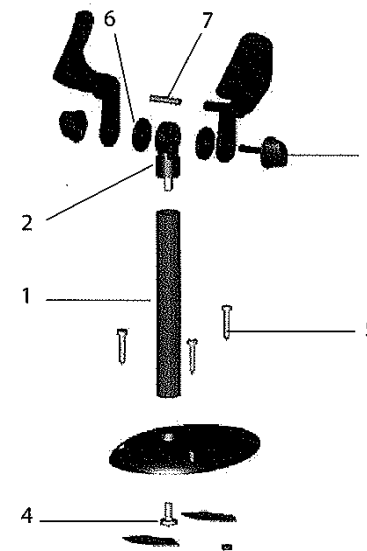

Figure 2
To assemble the STD-AUTO-G040 proceed as follows, referring to Figure 2:
Refer to Figure 2 while proceeding as follows:
3. Remove the plastic from the other side of the strips and affix the STD-AUTO-G040 to the surface, as shown in Figure 2.